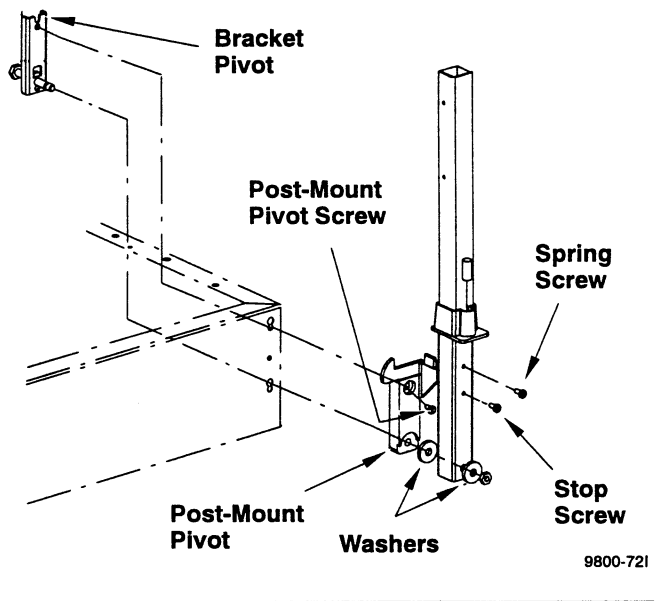

Figure 5-32. Exploded View of Post Lock Assembly
2. Unscrew stop screw and slide lock and spring off bottom of post. Figure 5-32.